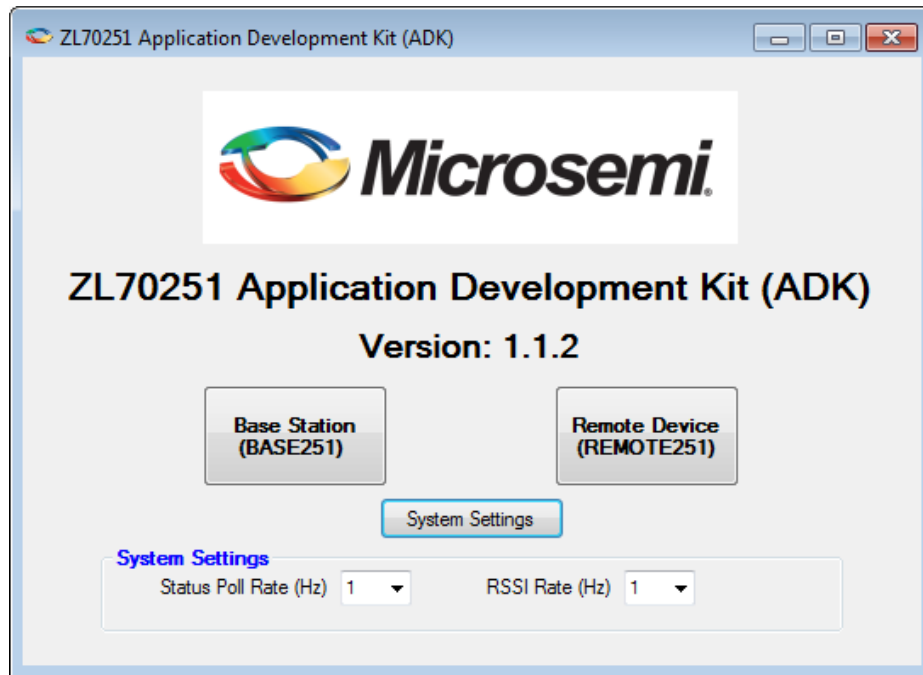

Figure 3 – ADK Main Form
The main form for the ADK (refer to Figure 3) controls the launch of the ADK application and its components. It displays the ADK software version and allows the user to control system-level timing intervals for various functions.
- **System Settings:** When the ADK application is first launched, click the *System Settings* button to see the expanded view that includes the *System Settings* section and its fields (as shown in Figure 3 on page 10). The fields control the interval of timers used for various operations of the system. The range of these settings is from 0.5 Hz to 10 Hz. If both the base station and the remote device are connected to the same PC, then these settings affect both the base station and the remote device. If the base station and the remote device are connected to separate PCs, then these settings apply only to the connected device. (The settings on each PC are completely independent and do not need to match.) The fields are: